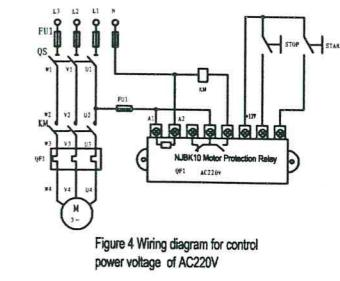

Figure 4 Wiring diagram for control power voltage of AC220V
5.2 Wiring diagram see Figure 4. Figure 5.